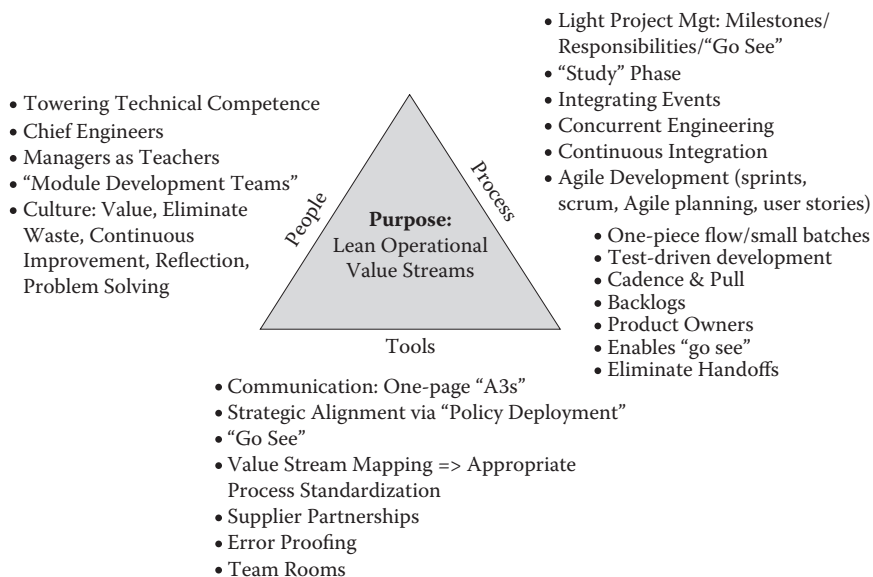

FIGURE 7
With that, Mary pulled a copy of a chart out of the folder in front of her (Figure 7).¹ “This is the current version of the chart we use internally to train new people and help our staff understand the nature of what we are trying to do. The basic framework originally came from Japan, especially Toyota.² We’ve tried not to use any of the Japanese words in our communication because we’ve found they build a barrier between us and people whom we are trying to teach.”
1. Figure 7 is adapted from Jeffrey K. Liker's earlier book, *A Toyota Leader's View of the Toyota Production System. The Toyota Way*. 2004. McGraw Hill. The adaptation is to fit software development better and to highlight the items I think are most important. As Mary says in the text, this chart is just one team's summary of the approach; other summaries, such as the Poppendiecks' (see note 3), are equally valid and powerful.